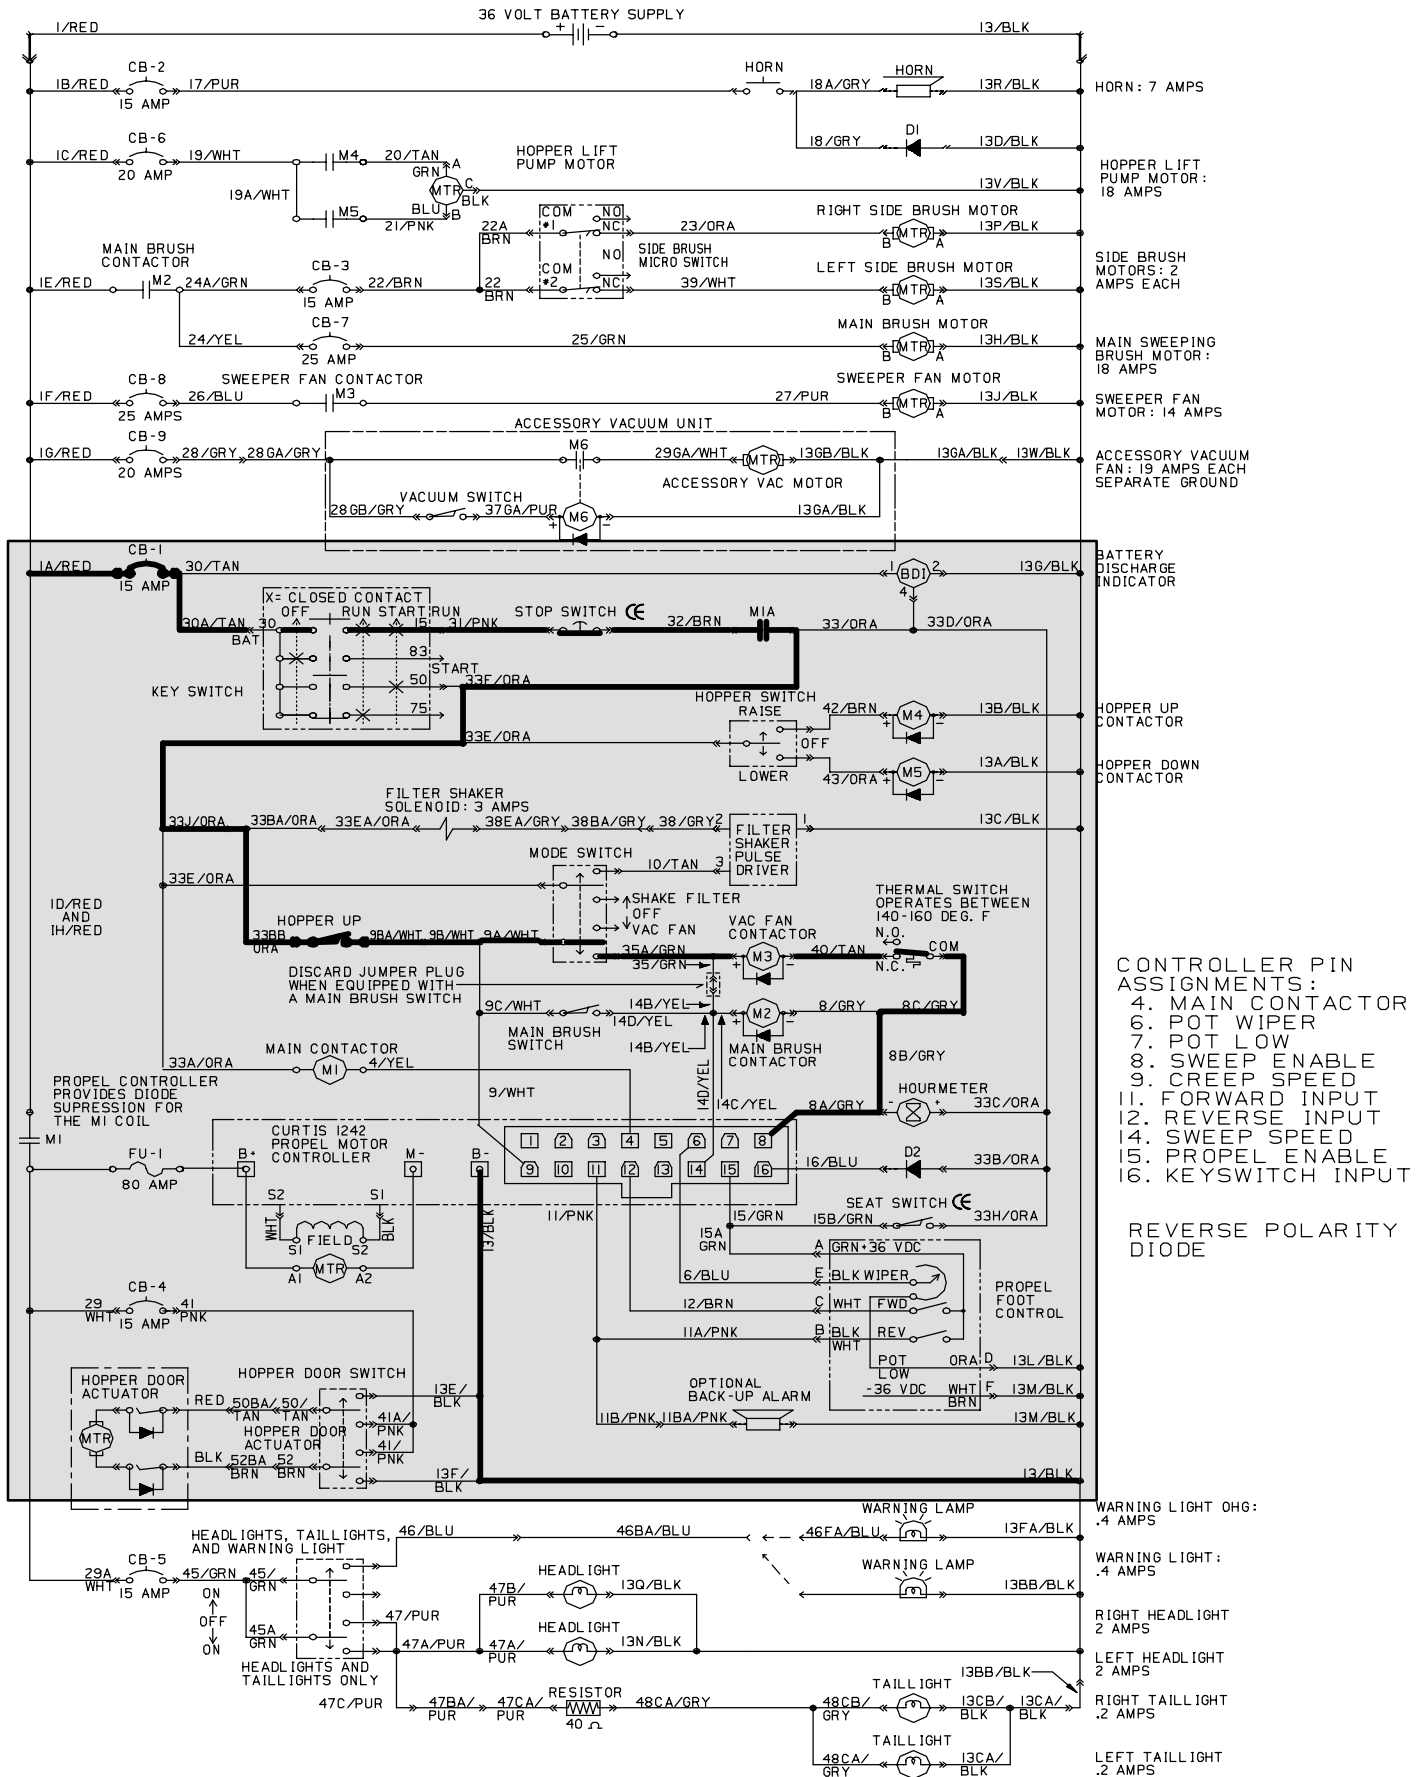

Fig. 10
1. Control circuit. (see fig. 10)